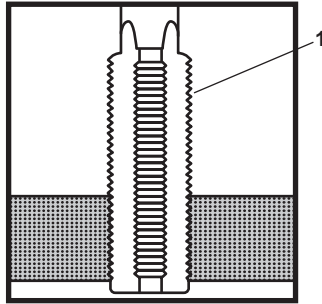

Figure 2. Tapping New Threads
5. Tap new threads in the hole using the tap (figure 2, item 1) selected in step 3.